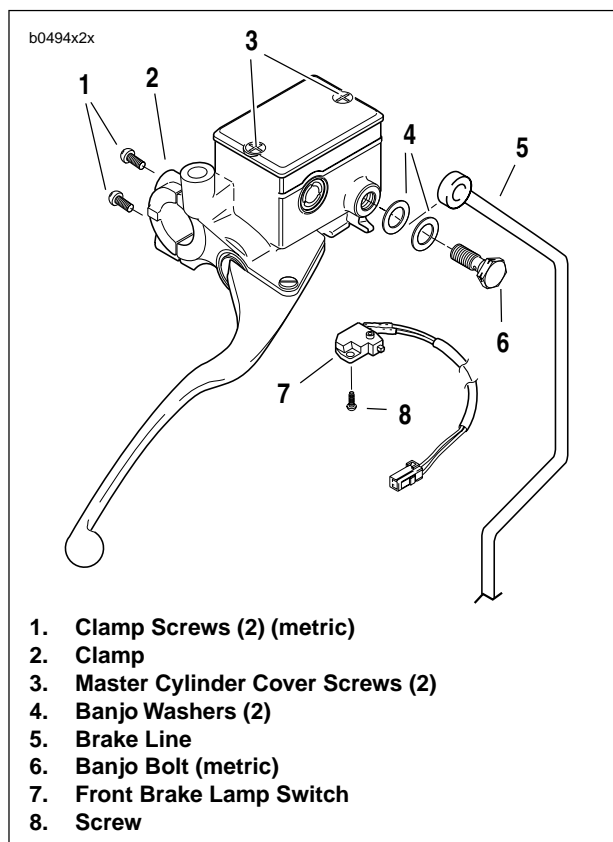
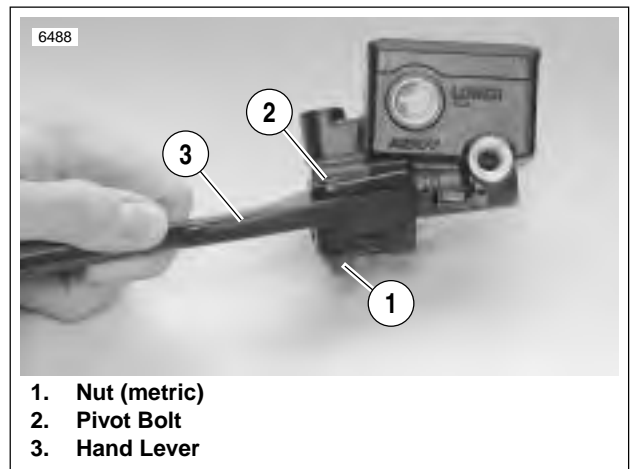
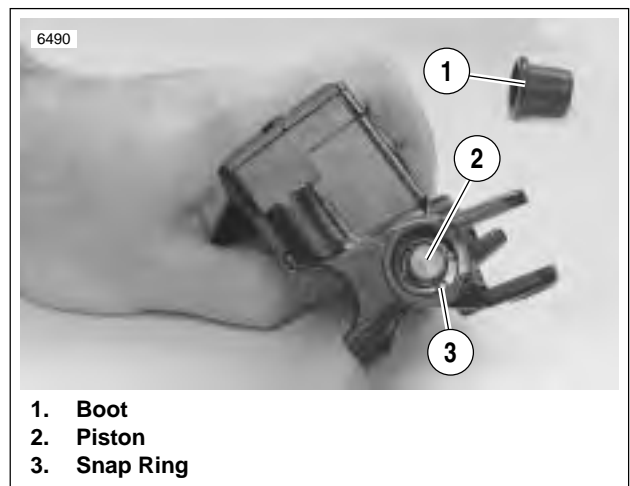
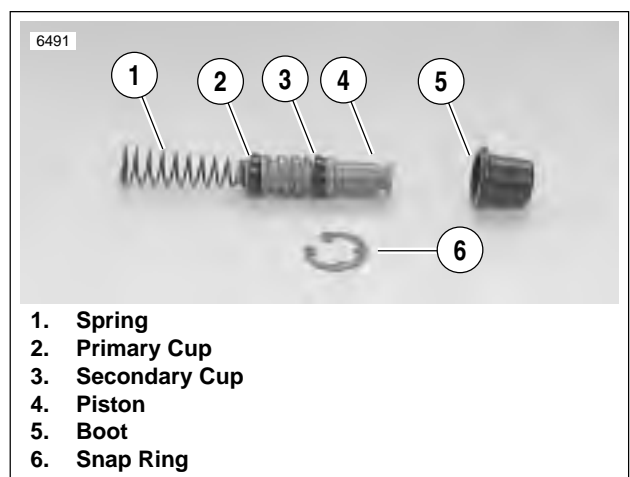

Figure 2-22. Front Master Cylinder
Figure 2-23. Hand Lever
Figure 2-24. Snap Ring
Figure 2-25. Piston Assembly
3. See Figure 2-22. Remove banjo bolt (6) (metric) and two banjo washers (4) to disconnect brake line (5) from master cylinder. Discard banjo washers.
4. Remove screw (8) or unplug both terminals to detach brake lamp switch (7).
1. See Figure 2-23. Detach front brake hand lever.
- a. Remove nut (1) (metric) from lever pivot.
- b. Remove pivot bolt (2) from lever pivot.
- c. Detach front brake hand lever (3) from master cylinder assembly.
3. See Figure 2-24. Compress piston (2) and remove rubber boot (1).
4. Depress piston assembly and remove internal snap ring (3). Discard snap ring.
5. See Figure 2-25. Remove piston assembly (1-4) from front master cylinder.
1. See Figure 2-25. Check piston assembly components.
- a. Small end of spring (1) sits behind primary cup (2). Large side of primary cup faces spring.
- b. Secondary cup (3) sits within ridge at middle of piston (4).
2. Insert piston assembly, spring first, into master cylinder. Secure with a **new** snap ring (6).
3. Install ridge on boot (5) into groove on piston (4).
4. See Figure 2-23. Install front brake hand lever.
- a. Align hole in lever (3) with hole in master cylinder assembly.
- b. Lubricate pivot bolt (2) with LOCTITE ANTI-SEIZE.
- d. Install nut (1) (metric). Tighten to 44-62 **in-lbs** (5-7 Nm).
5. See Figure 2-22. Install front brake lamp switch (7).
- a. Attach front brake lamp switch with screw (8). Tighten to 7-13 **in-lbs** (1-2 Nm).
1. See Figure 2-22. Fasten master cylinder to handlebar by installing clamp (2) and screws (1) (metric). Tighten to 80-90 in-lbs (9-10 Nm).